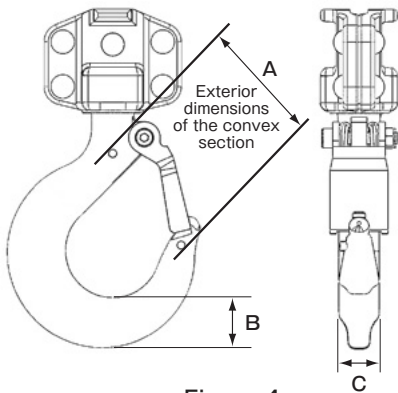

Figure 4
- (1)Measure dimensions A, B, and C in Figure 4 below, and record the actual measurements at the time of purchase. Although limit dimensions may also be determined based on the reference standard values, it should be noted that there will be some dimensional errors due to the forging process.
- (2) If any of dimensions A, B, and C have reached the indicated limits, replace the hook with a new one.
- (3)The opening of the hook will expand in the event loads exceeding the rated load are applied to the mouth, or if a concentrated load is applied to the tip section.
- (4)Hooks with expanded openings lose their original strength and shock-absorbing capabilities, and should be replaced upon exceeding the limit.
- (5)Never reuse hooks with expanded openings straightened by heating or repairing. Such attempts could cause extremely hazardous results. Hooks with flaws 1 mm or more deep or bent/twisted hooks should also be replaced.